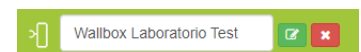

Figure 8.8
3. A field will be displayed where the new value can be entered, deleting or editing the previous one (Figure 8.8).